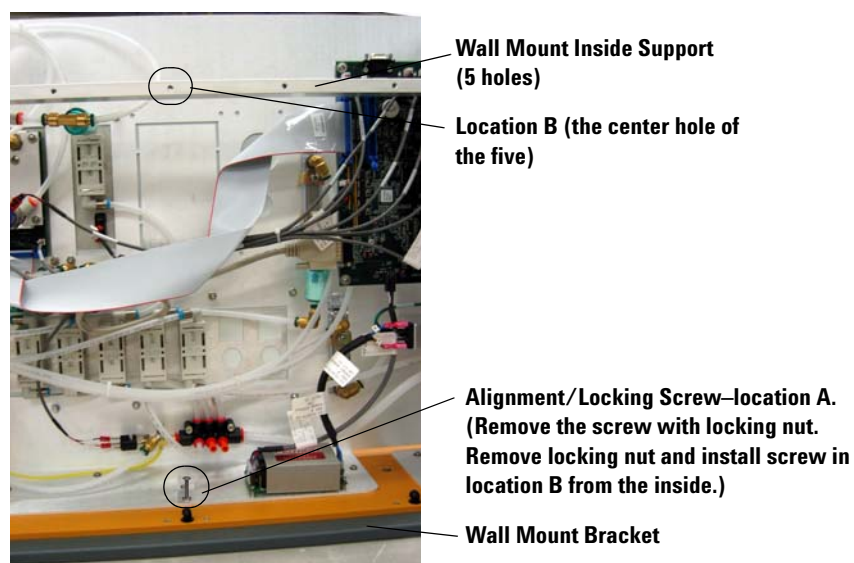

Figure 9 Pneumatics router, back-cover off
- 2 Relocate the alignment/locking screw, refer to Figure 9 on page 21, as follows: